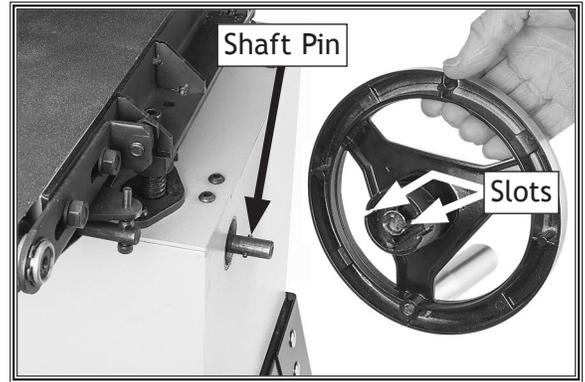

Figure 12. Installing handwheel.
15. Install table elevation handwheel. Slide handwheel slots over shaft pin, as shown in **Figure 12**. Secure with pre-installed M6-1 x 35 cap screw and 6mm fender washer.